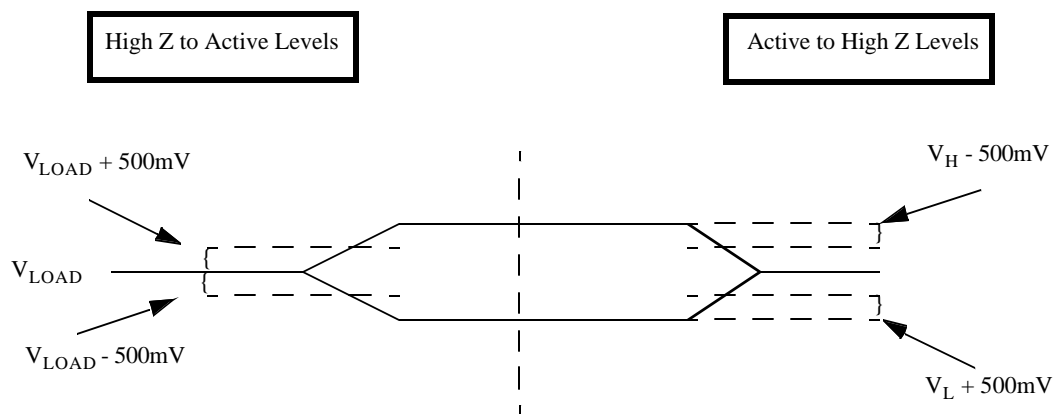

Figure 3. 5-Volt SRAM Loading
2. Three-state is defined as a 500mV change from steady-state output voltage (see Figure 3).
2. Three-state is defined as 500mV change from steady-state output voltage (see Figure 3).